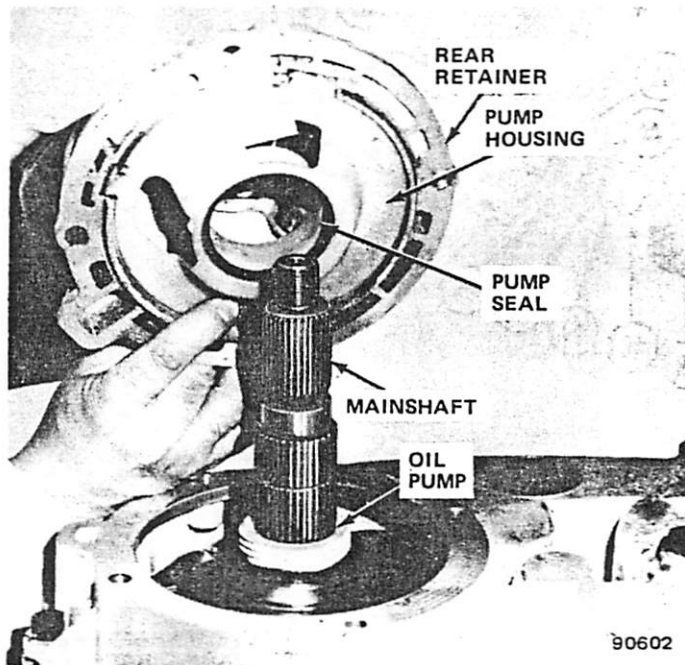

Fig. 2D-8 Rear Retainer Removal/Installation
(20) Remove sprocket carrier, needle bearing upper retainer, thrust washer and mainshaft needle bearings as assembly (fig. 2D-19).
(21) Remove mainshaft (fig. 2D-20).
(22) Remove annulus gear retaining ring and thrust washer (fig. 2D-20).
(23) Remove annulus gear and range fork as assembly. Turn fork counterclockwise to disengage fork lug from range sector and lift assembly out of case (fig. 2D-21).